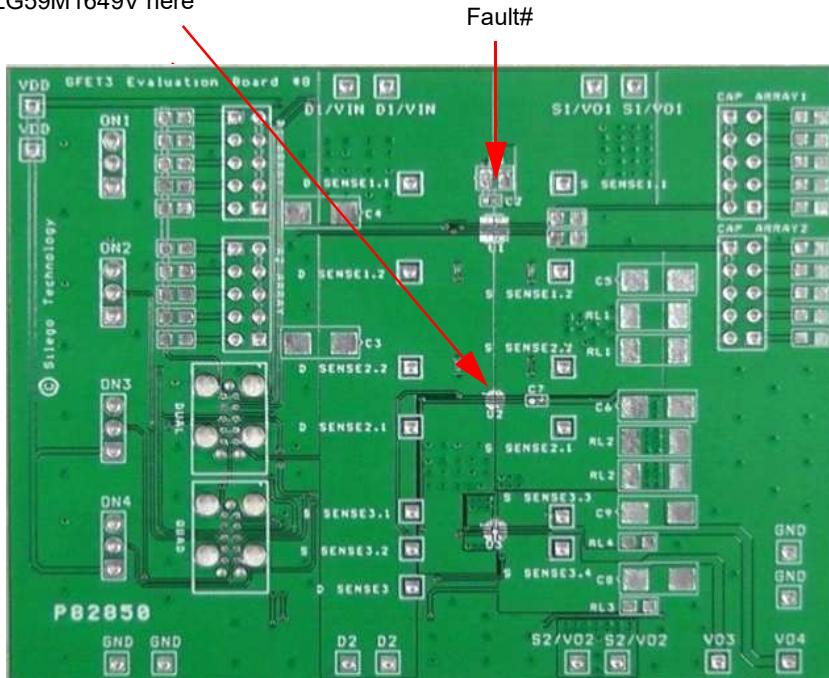

Figure 1. SLG59M1649V Evaluation Board.
1. Since the VIN and VOUT pins dissipate most of the heat generated during high-load current operation, it is highly recommended to make power traces as short, direct, and wide as possible. A good practice is to make power traces with absolute minimum widths of 15 mils (0.381 mm) per Ampere. A representative layout, shown in Figure 1, illustrates proper techniques for heat to transfer as efficiently as possible out of the device;
A GreenFET Evaluation Board for SLG59M1649V is designed according to the statements above and is illustrated on Figure 1. Please note that evaluation board has D\_Sense and S\_Sense pads. They cannot carry high currents and dedicated only for RDSON evaluation.